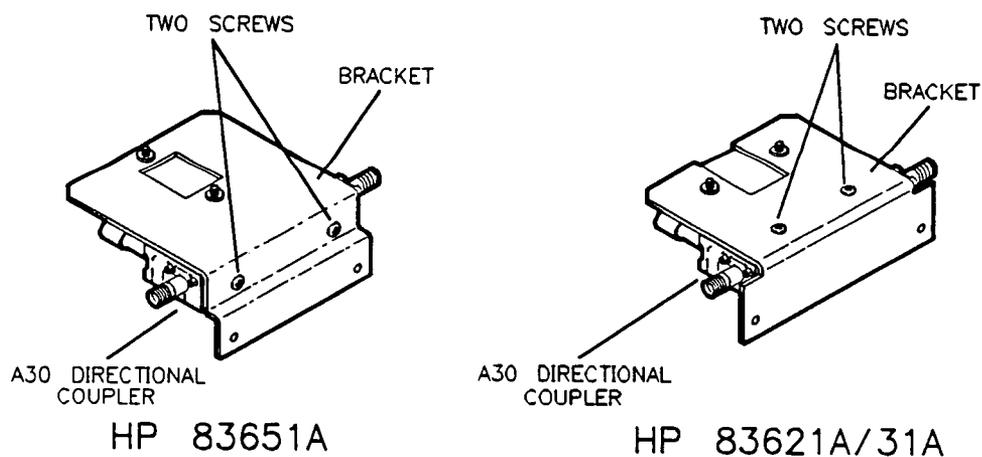

Figure 7-31. A30 Directional Coupler Bracket
1. Remove the two screws holding directional coupler A30 to the bracket (Figure 7-31).